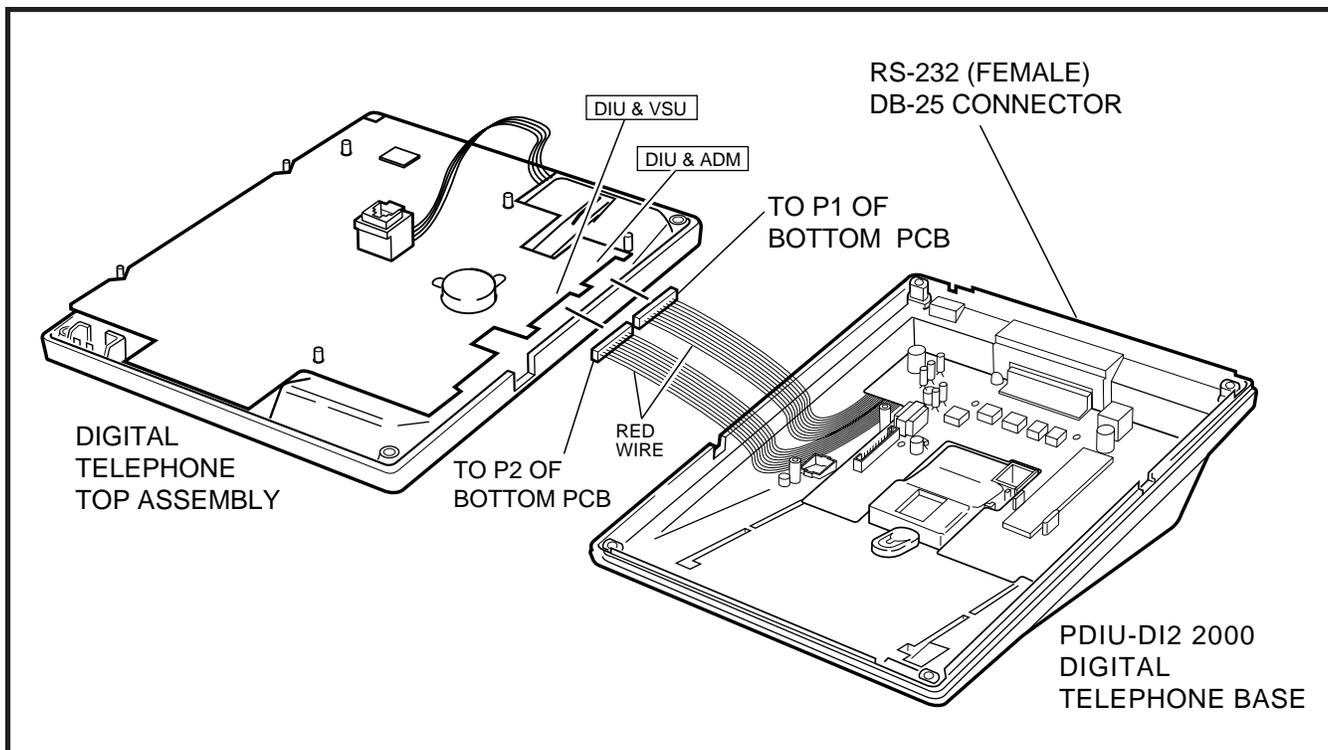
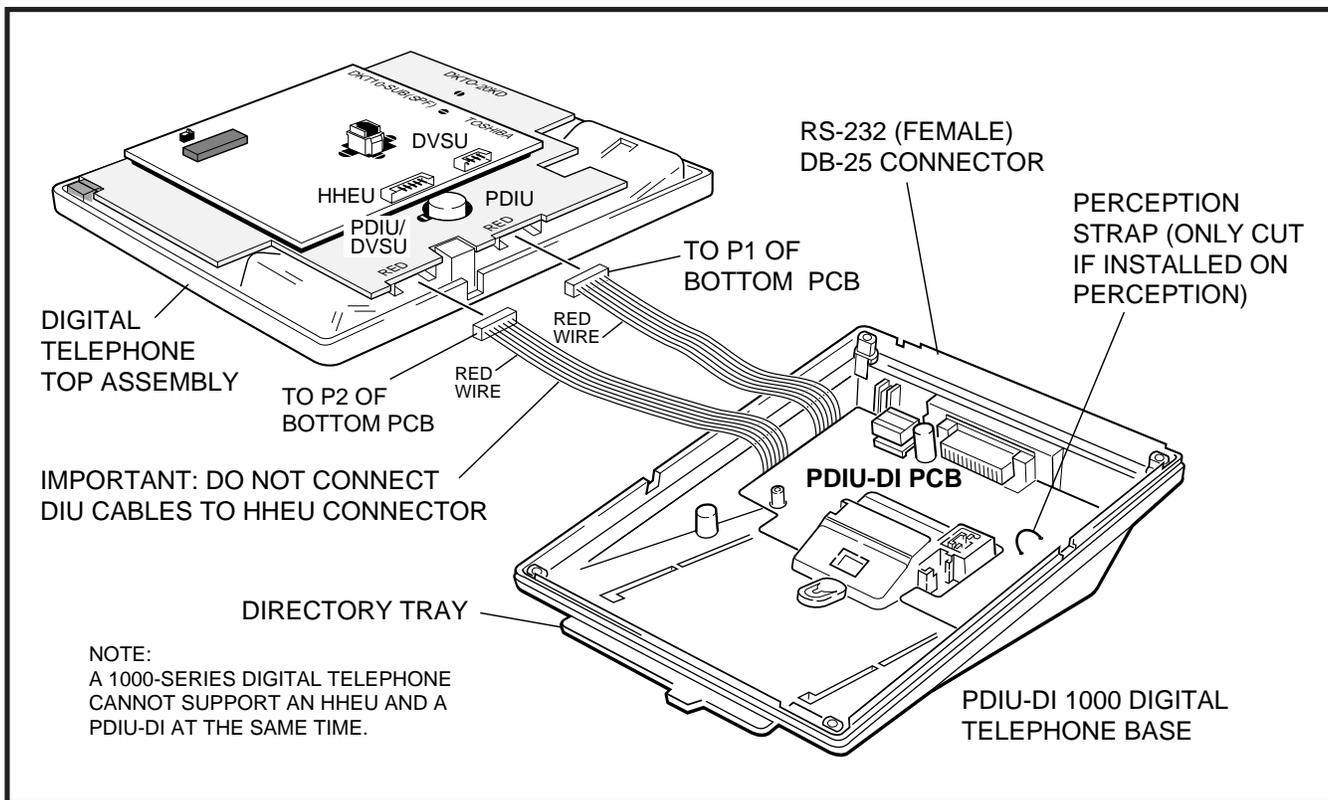

FIGURE 7-4
FIGURE 7-5
- 2) Refer to Figure 7-4 for 2000-series telephones or Figure 7-5 for 1000-series telephones, and insert the two integrated unit wire plugs into the connectors on the printed circuit board (PCB) in the telephone (observing the red wire for correct positioning).
- 4) Remove the telephone number directory tray from the original telephone base and install it on the integrated unit telephone base. Bend the tray by squeezing its sides so it bows slightly to remove and re-install (Figure 7-4 or 7-5).